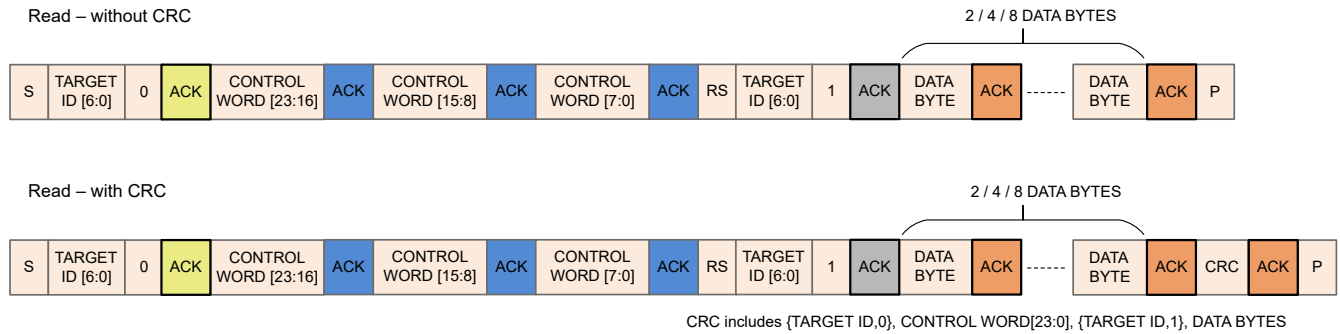

图 7-55. I2C Read Transaction Sequence
MCT8315A read transaction over I2C involves the following sequence (see 图 7-55).
- When target ID is a match, I2C peripheral in MCT8315A raises a start interrupt request. Until this start interrupt request is processed, clock is stretched. Upon processing this request, clock is released and an ACK (marked in yellow or grey in 图 7-54 and 图 7-55) is sent to the controller for continuing with the transaction.
- Receive interrupt pending:** When a receive interrupt is waiting to be processed and the receive register is full which occurs when two successive bytes (data or control) have been received by MCT8315A (separated by one ACK shown as blue boxes in 图 7-54 and 图 7-55) without the receive interrupt generated by the first byte being processed. Upon receive of second byte, clock is stretched until receive interrupt generated by the first byte is processed.